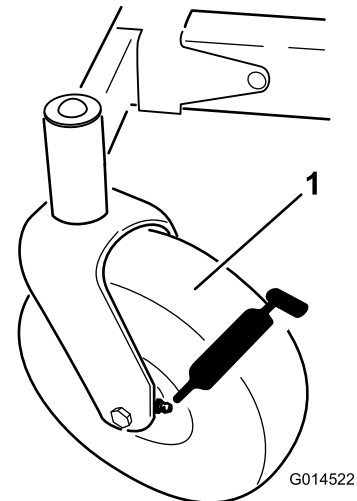
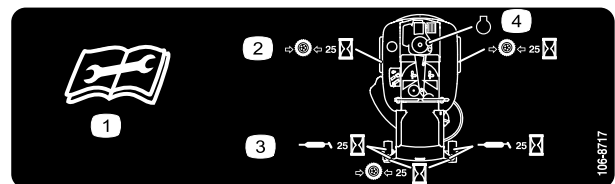

Figure 29
Figure 30
3. Clean the grease fittings (Figure 29 and Figure 30) with a rag.
4. Connect a grease gun to each fitting and pump grease into the fittings until grease begins to ooze out of the bearings (Figure 29 and Figure 30).